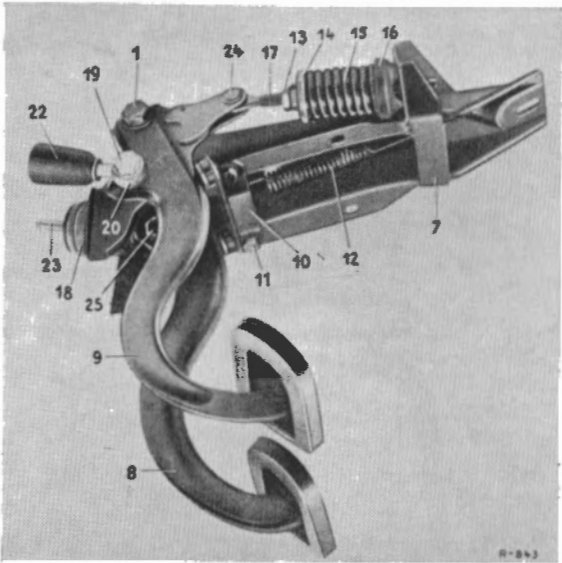

Fig. 29-2/2
9. Check the position of the pedals in the support (7). To do this, put a ruler against the face of the support and measure the distance 'b' from the face of the support to the center of the fulcrum and to the center of the adjusting screw bore. The prescribed distance is adjusted by moving the stop (10) (Fig. 29-2/1).
10. Adjust the pressure spring (15) (dead center spring) to the dimension 'c'. Lock the adjusting nut (13) by means of the lock nut (Fig. 29-2/1).
11. Screw the piston rod (23) actuating the brake master cylinder to the brake pedal (8) by means of the adjusting screw (25), but do not yet tighten the hexagon nut (Fig. 29-2/2).
12. Screw the piston rod actuating the supply cylinder to the clutch pedal (9) by means of the adjusting screw (20), but do not tighten the hexagon nut.